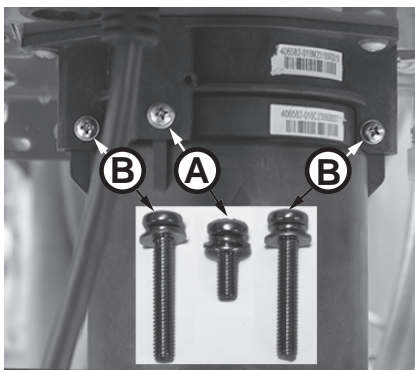

Figure 166 - Identify cartridge screws
- 6 Locate the three (3) screws securing the X3®/Bypass cartridge as shown in Figure 166. Remove the (A) M4-12mm screw and the two (B) M4-25mm screws from cartridge. Place screws aside in a safe place for reinstallation.